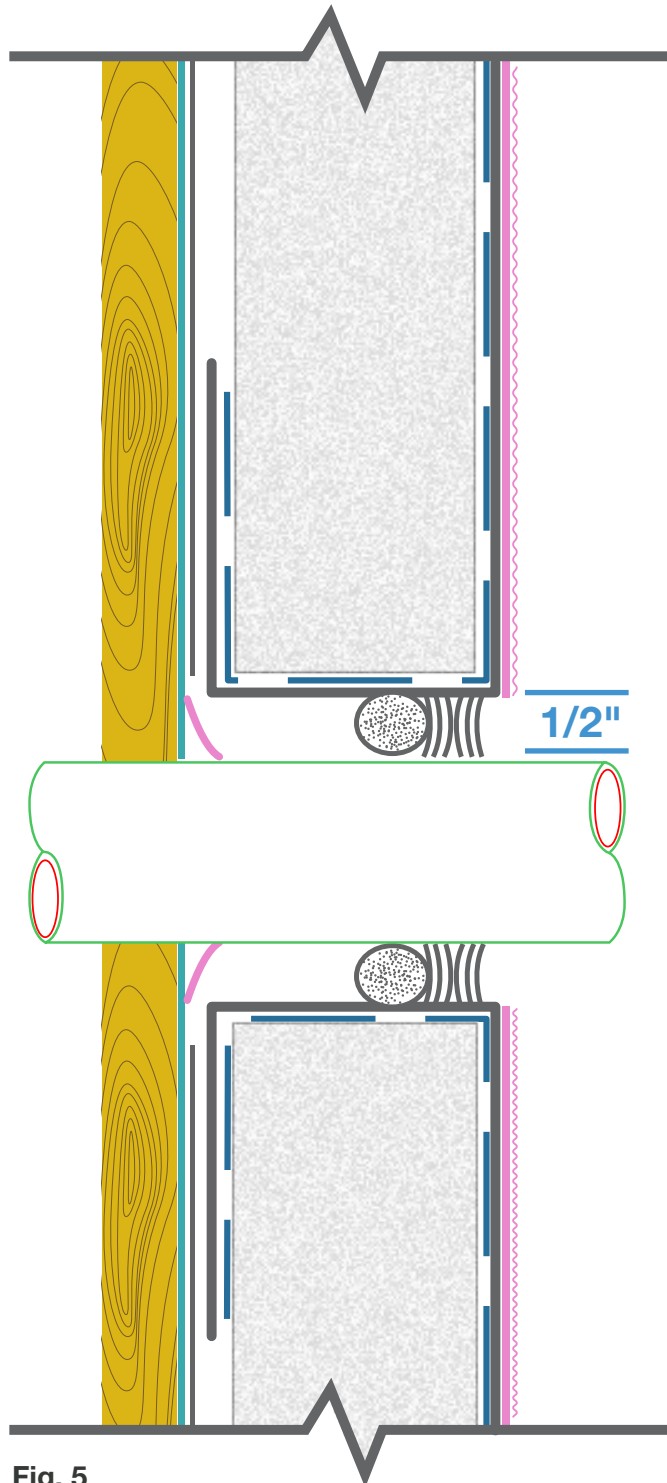

Fig. 5
2. After Xi-WaterShield and Accessory materials are installed to create a waterproof connection at the penetration, the backwrap will be installed away from the penetration a little more than 1/2 inch. This will allow for a 1/2 inch sealant joint to be installed after the EIF System is in place and dried for 2 days minimum. (Fig. 5)